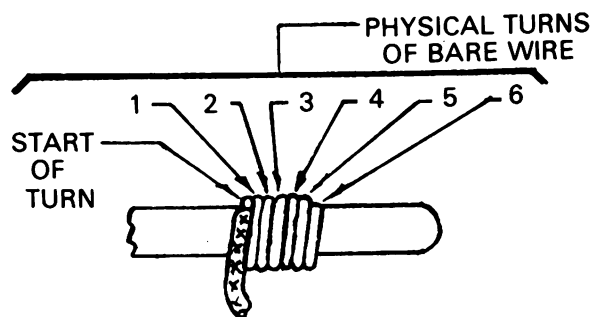

Figure 2. Solderless Wrapped Connection.
b. Wrapped connections. (Refer to CCTM 105-50-21, para 3-20, pp 3-134 thru 3-138, fig 2.)
- (1) Straighten the working length of wire.
- (2) Slide the skinned wire into the feed slot of the wrapped bit.
- (3) Wrap the wire around the terminal.